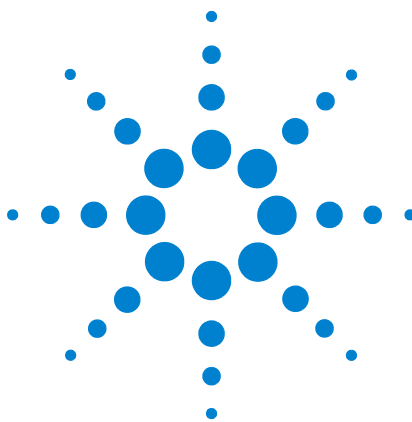

Figure 2 Removing the oven door
- 2 Open the oven door, then turn the top hinge lever to unlock it. See Figure 2.